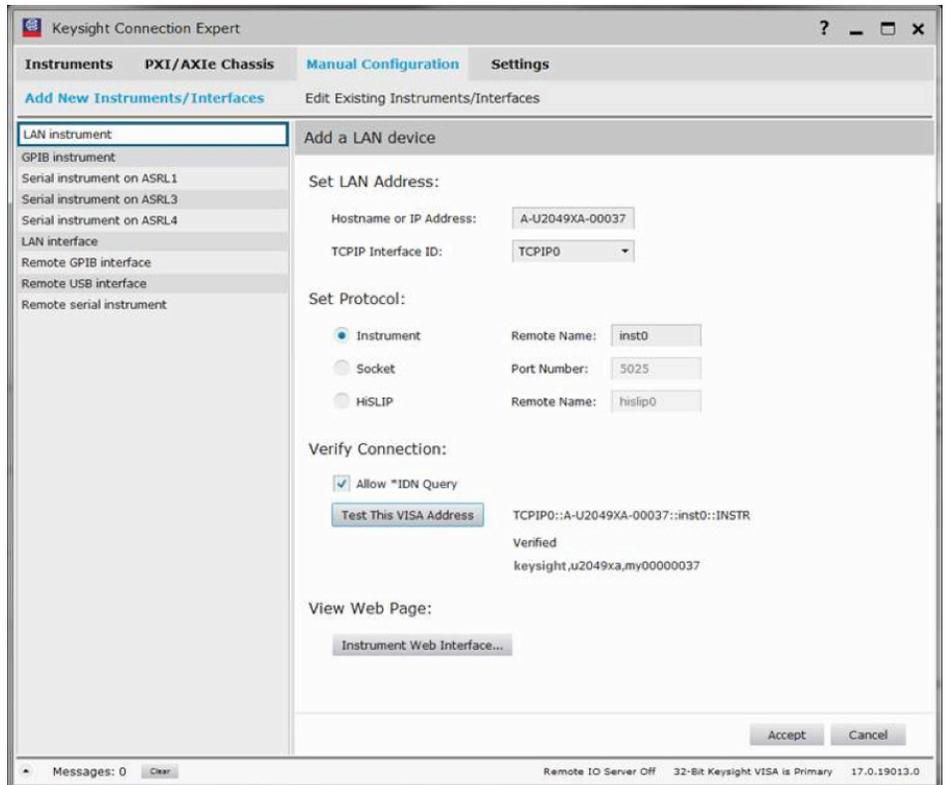

Figure 3. Manual configuration to add the LAN power sensor's LAN connection
3. Click Test This VISA Address to verify the LAN connection as shown in Figure 3.